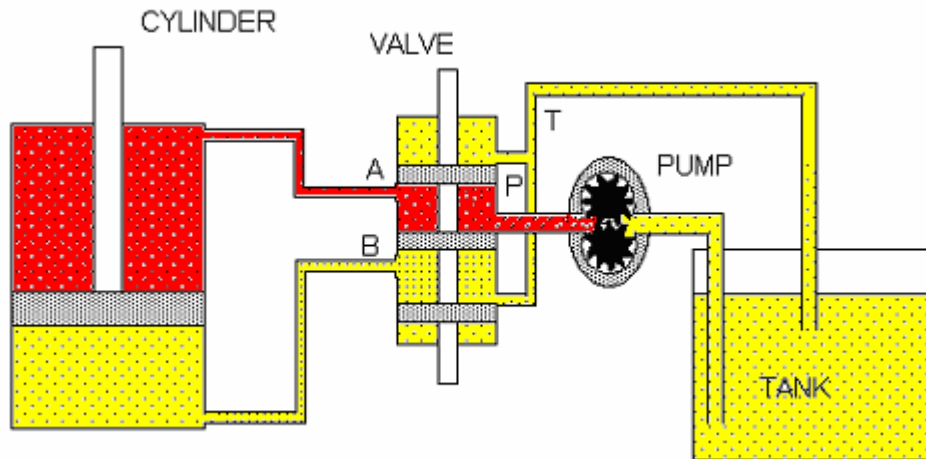

Figure 3
6. The simple hydraulic circuit shown represents the system in figure 3. The circuit diagram should be drawn using symbols from British Standard 2917 and these are laid out below. Using solid pencil lines, draw in the pipe line connections to complete the circuit.